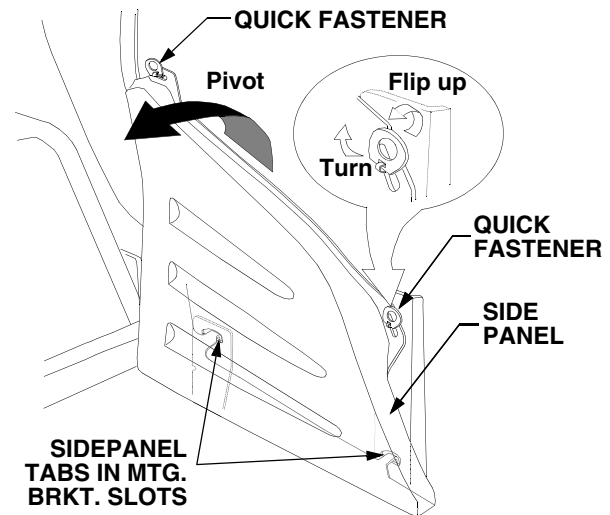

Figure 34
- Flip the tabs of the two quick release fasteners up and turn to align with the slots in the side panel. See Figure 34.
- Pivot the top of the side panel until the two tabs at the bottom of the panel can be withdrawn from the slots of the side panel mounting brackets; then remove the side panel. See Figure 34.
- Insert the two side panel tabs into the slots of the side panel mounting brackets. See Figure 34.